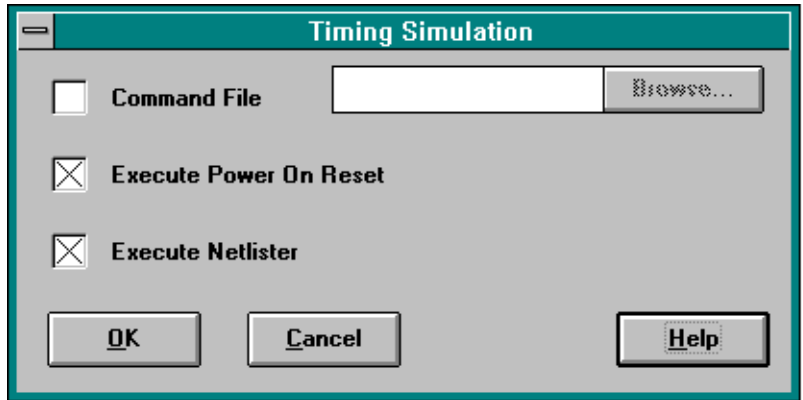

Figure 2-19 Timing Simulation Dialog Box
- Click on the **Implementation Options** button. The dialog box shown in Figure 2-19 appears: